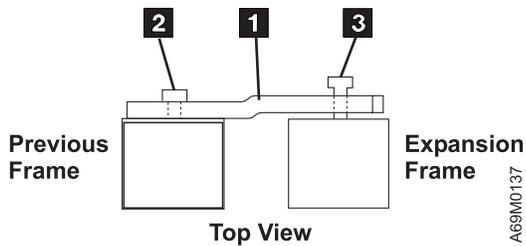

Figure 37. Expansion Frame Attachment Bracket – Offset
- ___ 52. Refer to Figure 37 on page 96. Connect a frame-to-frame attachment bracket **1** near the top of the front vertical frame, connecting the expansion frame to the previous frame.